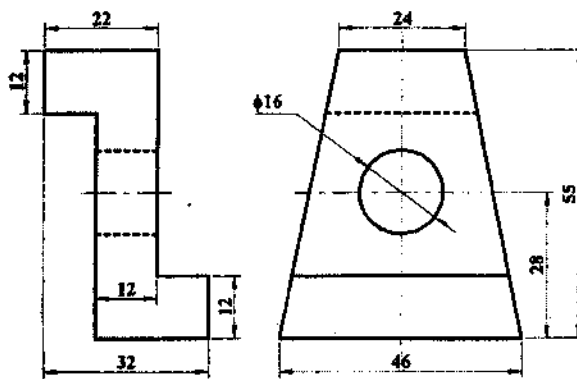

Figure P.1
1. Draw isometric drawing from the given orthographic views as shown in Figure P.1. [10]